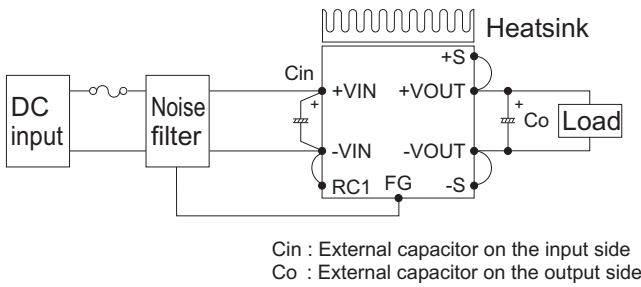

Fig.2.1 Connection for standard use
- In order to use the power supply, it is necessary to wire as shown in Fig.2.1.